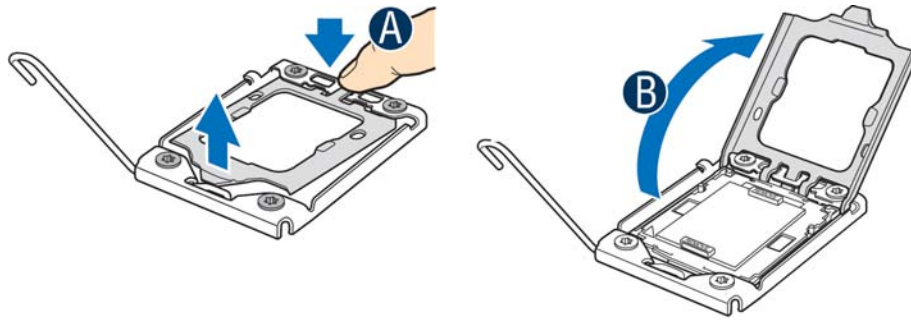

Figure 29. Opening the Processor Socket Load Plate
6. Open the load plate: push the rear tab with your fingertip to bring the front end of the load plate up slightly (Step “A” in Figure 29), and then open the load plate as shown in Figure 29 (Step “B”).